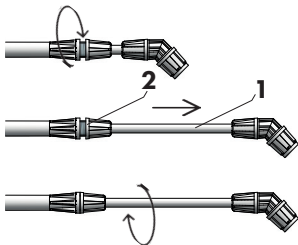

Fig.12
Move the sprayer to the work site. Use the piston rod (fig. 7c) to pump the sprayer (around 20 full motions) until the safety valve operates (fig. 7a/pos. 1). As soon as the safety valve opens (fig. 7a/pos. 1), maximum tank pressure has been reached. Monitor the tank pressure on the pressure gauge (fig. 12/pos. 3).
The length of the sprayer lance can be adjusted. To do so, loosen the bell-shaped nut (fig. 12/pos. 2), slide out the telescopic section of the lance (fig. 12/pos. 1) to the required length (max. 0.54 m) and tighten the bell-shaped nut (fig. 12/pos. 2).